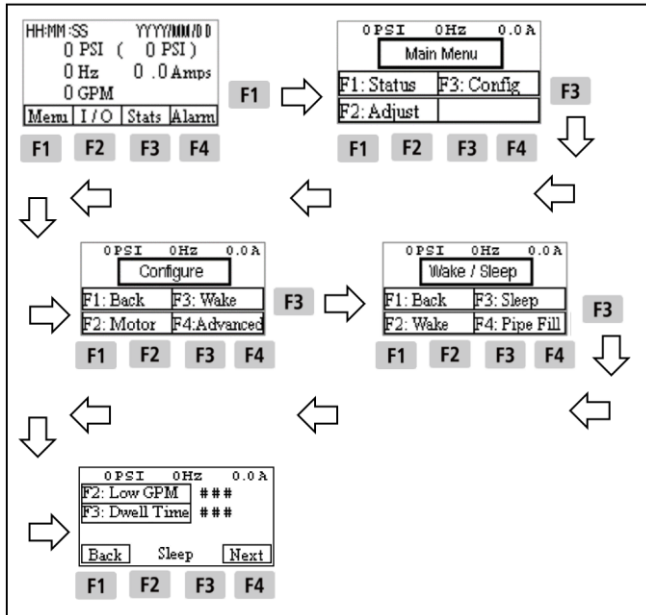

Figure 12-18. Setting Sleep Parameters.
2. From the System Status screen, press the **F1** Menu key to get to the Rain Bird Main Menu screen (see Figure 12-18).
3. From the Rain Bird Main Menu screen, press the **F3** Config key to get to the Configure menu (see Figure 12-18).
- Press the **F3** Wake key to get to the Wake / Sleep screen (see Figure 12-18).
- Press the **F3** Sleep key to get to the first Sleep configuration settings screen (see Figure 12-18).